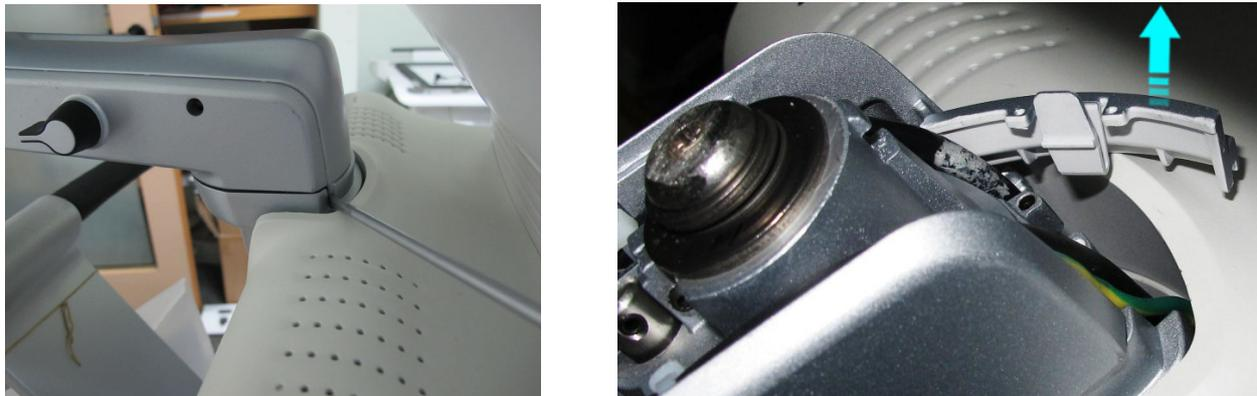

Figure 8-61 Removing the Monitor Arm Base Cover
The Monitor Arm Base cover is located below the lower Horizontal Articulated Arm cover - see contextual picture in Figure 8-61.
- 2) Use a flat screwdriver to gently release the small plastic **Monitor Arm Base Cover** from the base of the Monitor Arm - Figure 8-61 (left) - then, lift to remove.
- 1) Place the new Monitor Arm Base Cover in position by sliding it onto the articulated arm taking care that you insert it with the clip facing *upwards* - see Figure 8-61.